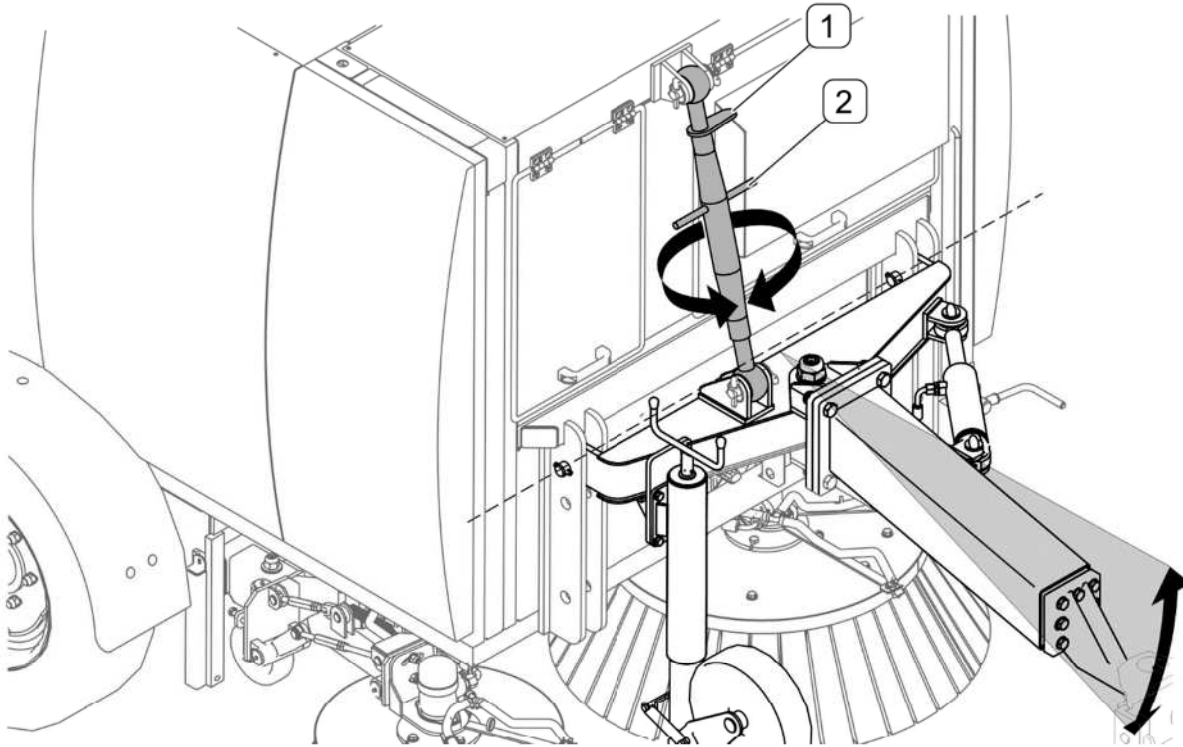

FIG. 4.2 Adjustment of sweeper hitch
For optimum operation, set sweeper body in horizontal position (FIG. 4.2) by loosening counter nut (1) and turning connector lever (2). After adjustment of the connector, tighten counter nut (1).